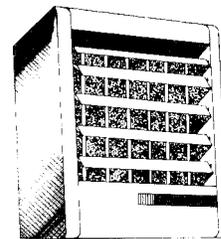

Figure 23. Gas heater.
**Space (Natural or LP Gas).** Space heaters (Fig. 23) are used extensively to heat greenhouses. Some heaters are completely self-contained units with a fan and heat exchanger.